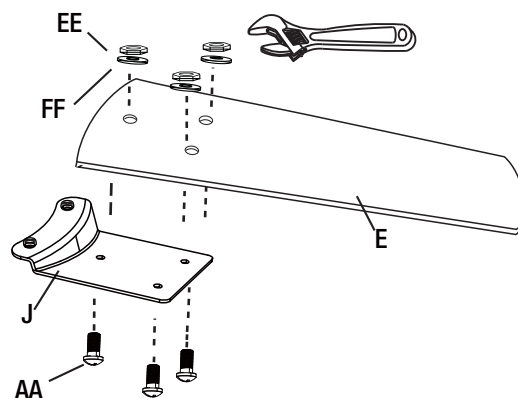

Figure 14
- Mount the blade holders (J) to the fan blades (E) using the screws (AA), hex nuts (EE) and flat washers (FF) provided - 3 each per blade (Figure 14).